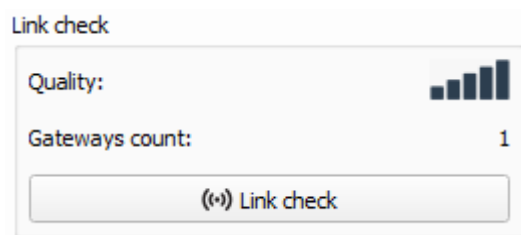

Figure 13 — “Link check” field
3.4.2.7 «Link check» button (not displayed in the "Simple" mode) – when pressed, the device sends a special signal to the LoRaWAN network, in response to which the network informs it about the number of gateways that received this signal and the signal quality (fig. 13). This button only works while the device is connecting to the network.